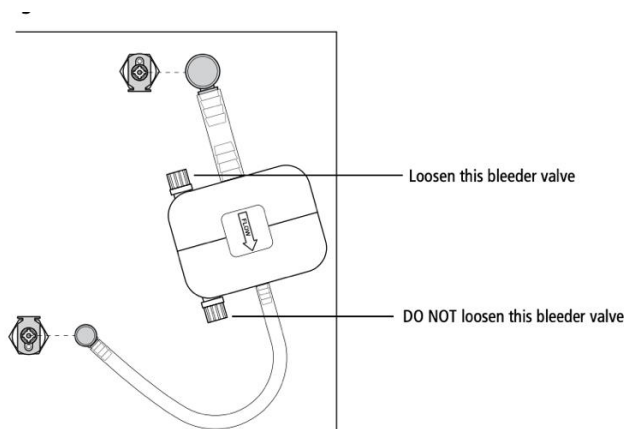

Figure 15 - Fluidics Filter
- c. Loosen the **top bleeder valve** of the FACSFlow Filter (see Figure 15), located at the bottom of the fluidics cart, just below the FACSFlow Sheath Fluid Tank to release trapped air. Close the bleeder valve as soon as liquid starts bleeding out of the filter.